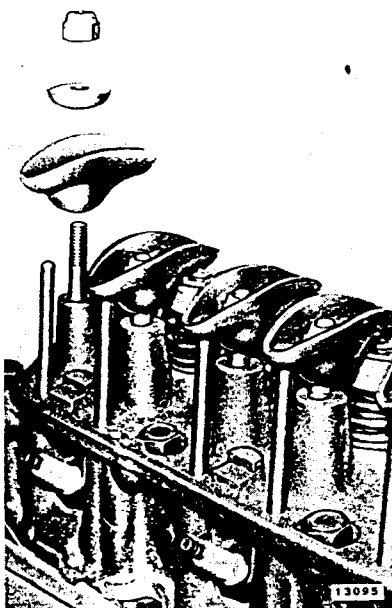

Figure 8-1-20
2. Install rocker arms, balls and nuts and tighten rocker arm nuts until all push rod play is taken up (see Figures 8-1-20 and 8-1-3).